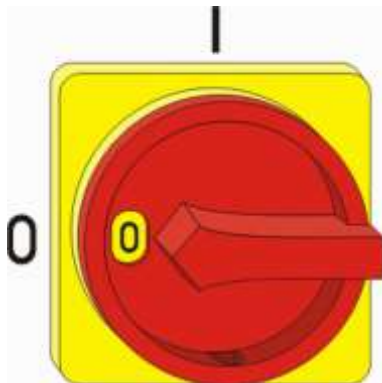

Fig.65: Main switch
1. Turn the main switch to the "0" position (Fig. 65).